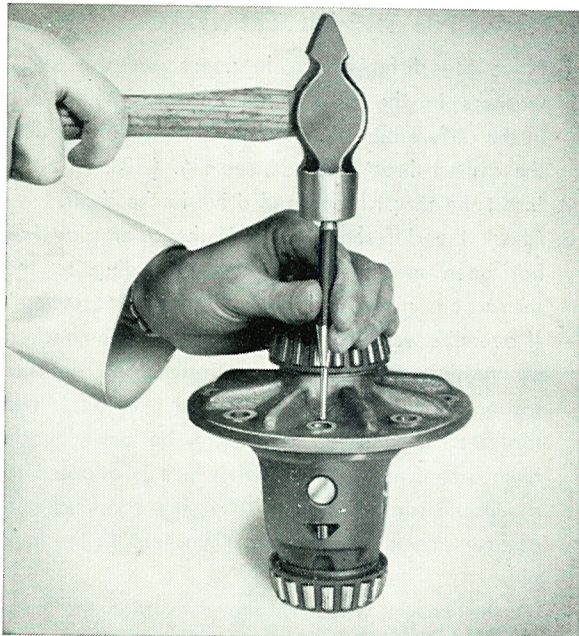

Fig. 4-99. Removing the lock pin
2. Drive out the lock pin, see Fig. 4-99, and then the shaft for the differential gears. Take out the block, the differential gears and the thrust washers.